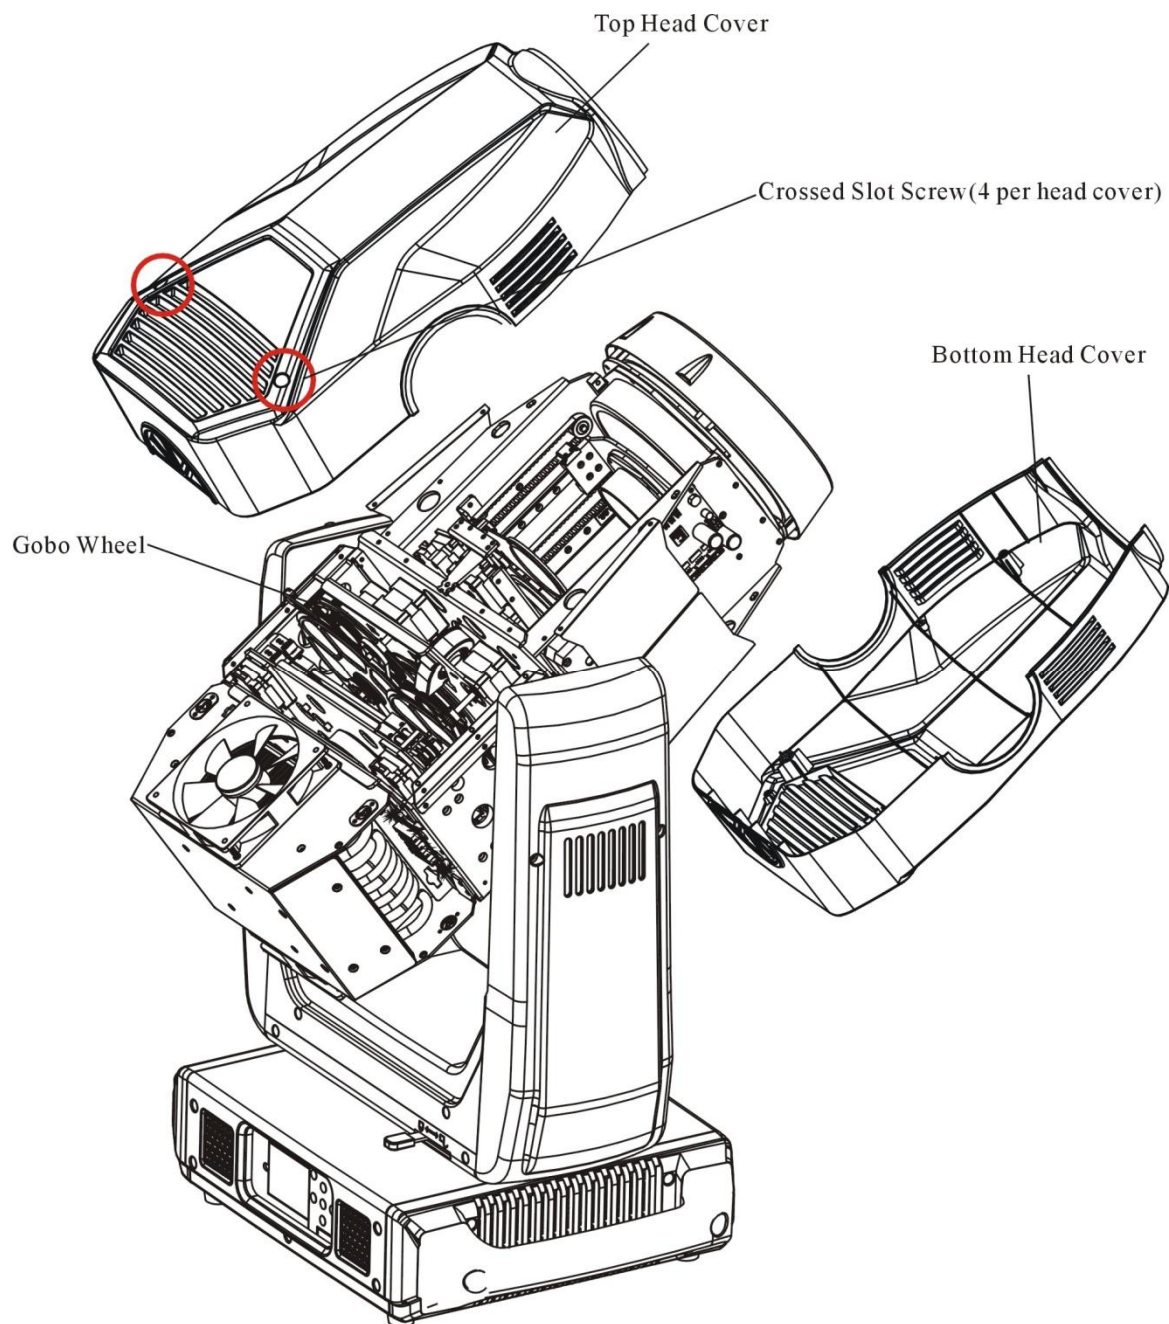

Figure A-2: Head Covers – Removal
Step 2: As illustrated in Figure A-2, remove top and bottom head cover by loosening four Crossed Slot screws to access the gobos wheels.